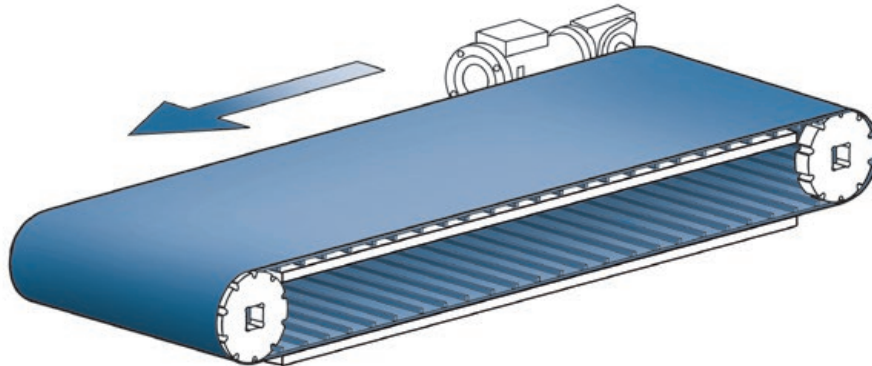

Figure 2
- The conveying side of the belt is traveling (pushed) away from the drive (powered) sprockets. See Figure 2